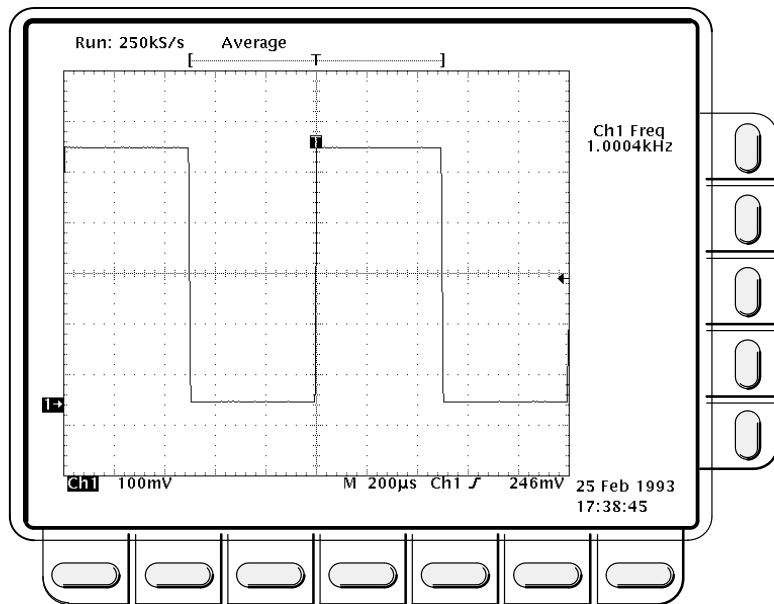

Figure 1-24: Measurement of Probe Compensator Frequency
- Press **CLEAR MENU** to remove the menus from the display. See Figure 1-24.